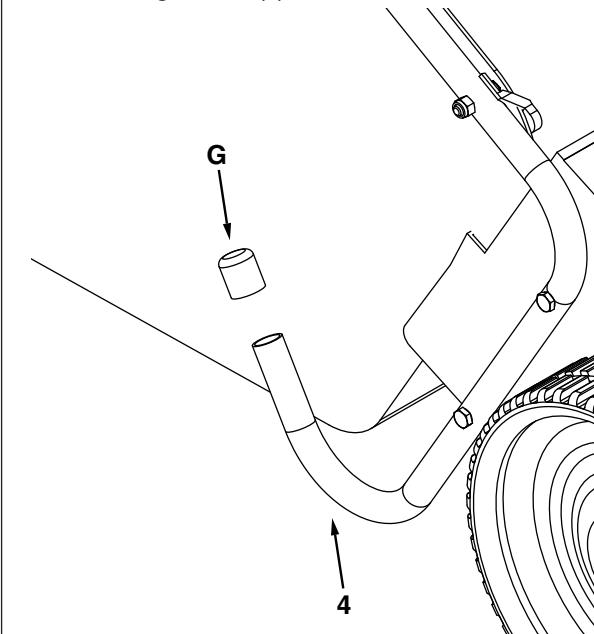

Figure 7
STEP 7: (SEE FIGURE 7)
- Assemble the two plastic caps (G) onto the ends of the leg stands (4).